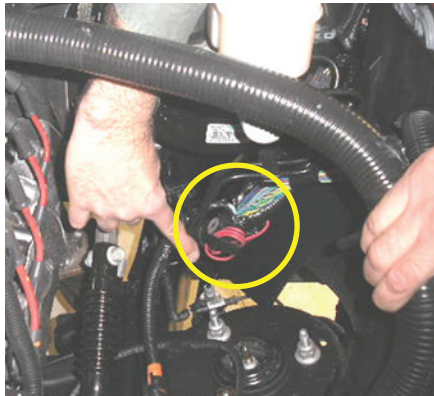

Figure 1
1. Locate the trailer brake control circuits looped and taped to the main harness under the IP (Fig. 1)
1. Locate the red wire looped and taped to the chassis harness below the brake master cylinder (Fig. 1)